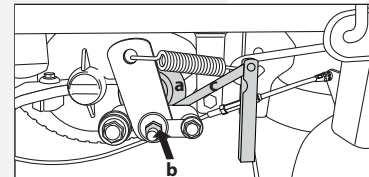

Fig. 33
2. While rocking the brake rotor (a) back and forth slowly tighten nut (b) until it's not possible to move the brake rotor. (Fig. 33)